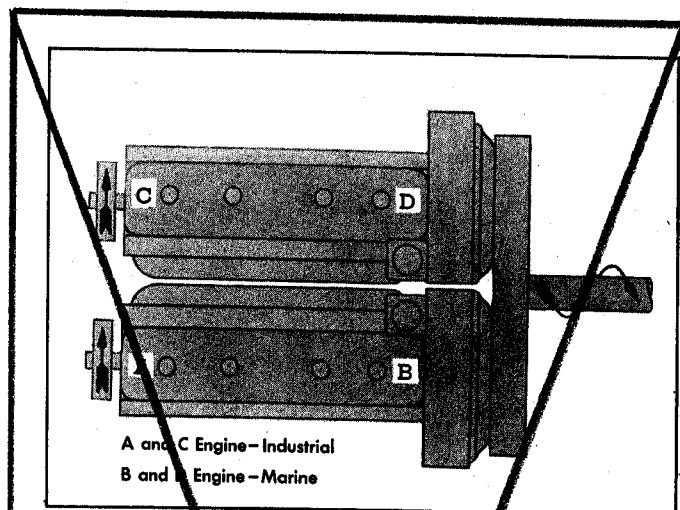

Fig. 5—Typical Twin Engine Unit.
Left-hand (LH) rotation is obtained at the power drive shaft with the arrangement shown in Figs. 5, 6, and 7. Right-hand (RH) rotation at the power drive shaft is attained by reversing the arrangement of the engines on the base as shown in Fig. 5 and 6.